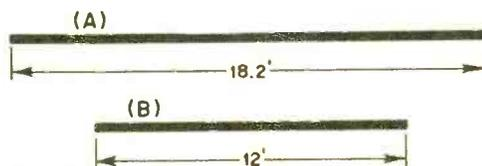

Fig. 2
To find out how long the coax should be, you must first sit down and figure out a half wavelength according to the standard formula. That would work out this way: length (in feet) =  $984/f$ , where 984 is the radio-wave velocity factor and  $f$  is the frequency in megacycles. The CB frequency of 27 mc figures out to a wavelength of 36.37 feet, giving us 18.2 feet as a true half wavelength, as in Fig. 2 (A).
The speed (Velocity Factor) for common coax is .66. To get an *electrical* half wavelength we multiply this factor by the true half wavelength, which works out this way:  $.66 \times 18.2 = 12$  feet, as in Fig. 2 (B). So an electrical half wavelength is 12 feet, and that is the length of coax you need.